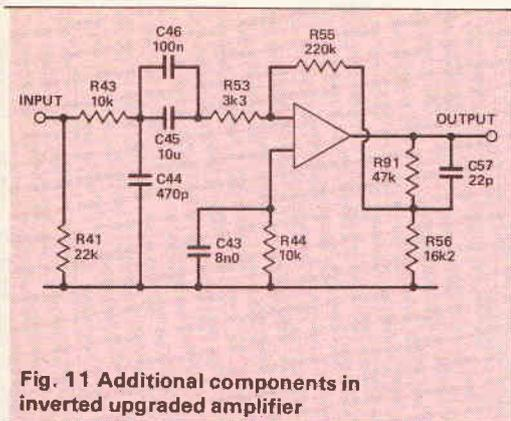

Fig. 11 Additional components in inverted upgraded amplifier
- Add the components shown in Fig. 11.